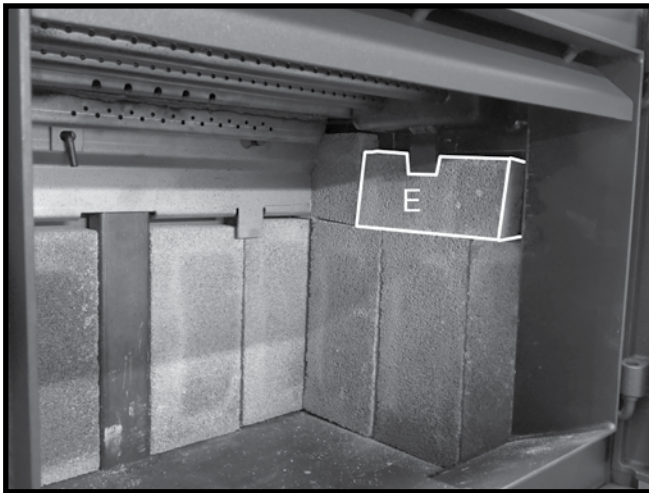
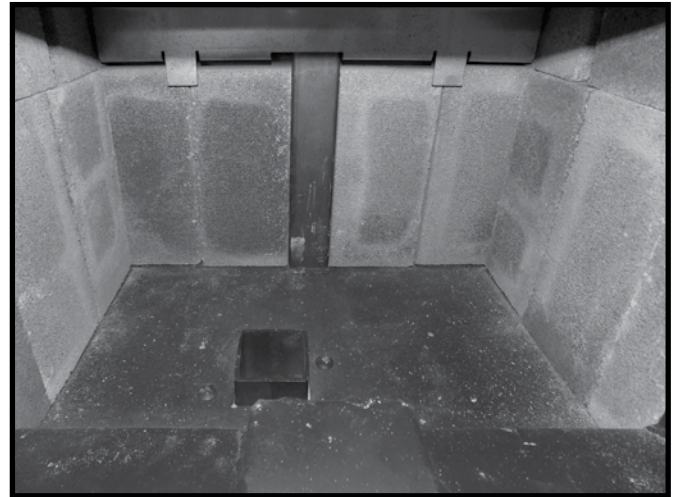

Figure 29: Final side wall firebrick in position.
Figure 30: Firebox floor with ash dump.
7. Slide an "E" firebrick under the side wall brick rail tab and rest on top of the three previously placed side wall firebricks (Figure 29). Repeat steps 4-7 on the other side (Figure 30).